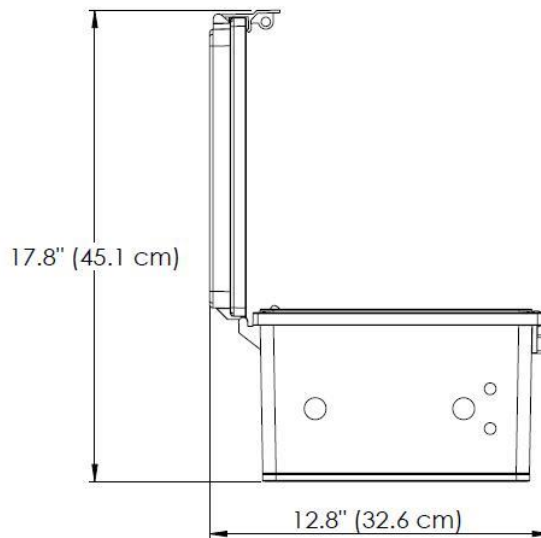

**Figure 2a. Wall-Mount Standard Enclosure (Bottom View)**
**2. Power.** Both types of Wall-Mount Enclosure require 12 volt DC power (an option for AC power is offered for the Water-Resistant NEMA Enclosure). For the Standard enclosure, make connections through the external fittings (Figure 2a). For the NEMA enclosure, open the enclosure door and then open the faceplate by removing the two screws in the right-hand corners. Make connections through conduit fittings (Figure 2b) on the bottom of the enclosure. Connections must be made using 1/2" liquid-tight
**3. Analog output, serial communication, and relays.** Access to the analog output, serial communication and relays is also on the bottom of the enclosure (Figures 2a and 2b). For the Water-Resistant NEMA enclosure, connections must be made using 1/2" liquid tight conduit fittings and the appropriate conduit type (supplied by the buyer) to maintain the NEMA 4X rating. The NEMA connections are made to the 14-position terminal block according to Figure 4 and Table 1 below.